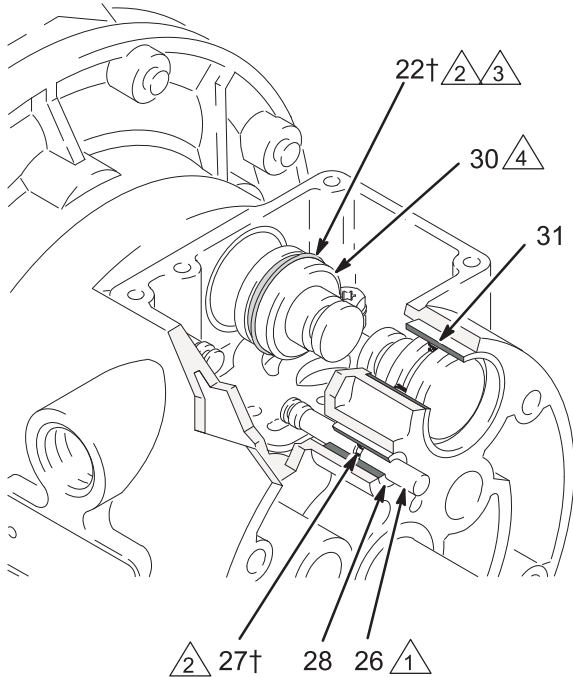

Fig. 9
4. Pull the two actuator pistons (30) out of the bearings (31). Remove the u-cup packings (22) from the pistons. Pull the push pins (26) out of the bearings (28). Remove the o-rings (27) from the push pins. See **Fig. 9**.
6. Inspect the bearings (28, 31) in place. See **Fig. 9**. The bearings are tapered and, if damaged, must be removed from the outside. This requires disassembly of the fluid section. See page 21.
4. Install an o-ring (27) on each push pin (26). Grease the pins and o-rings. Insert the pins into the bearings (28), **narrow** end first. See Fig. 9.
5. Install a u-cup packing (22) on each actuator piston (30), so the lips of the packings face the **narrow** end of the pistons. See Fig. 9.
6. Lubricate the u-cup packings (22) and actuator pistons (30). Insert the actuator pistons in the bearings (31), **wide** end first. Leave the narrow end of the pistons exposed. See Fig. 9.